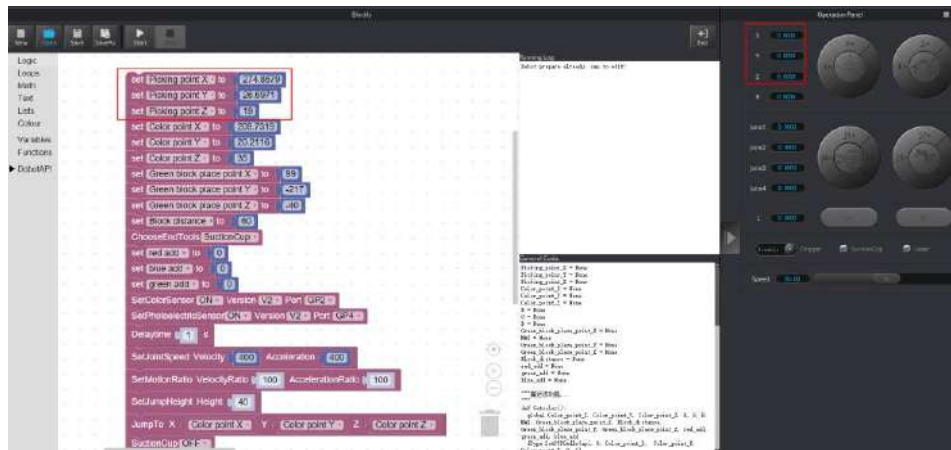

Figure 4.7 Modify picking position
2. The operation panel in DobotStudio will record the values of X, Y, Z axes automatically, and write the values of the X, Y, Z axes in the sorting demo as shown in Figure 4.7.